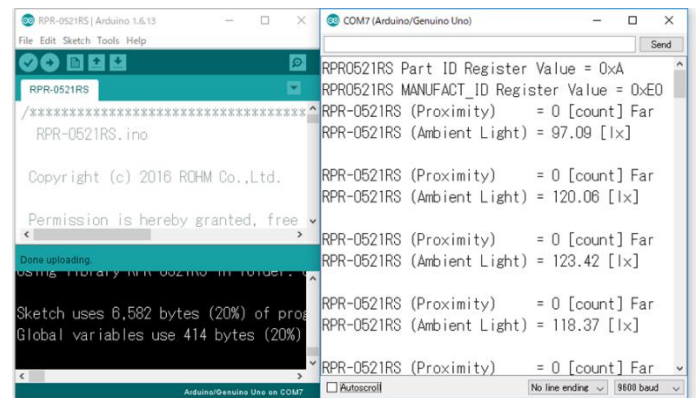

Figure 6. Serial Monitor
5. Check log of Serial Monitor (Figure 6)